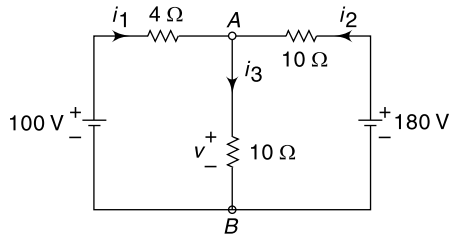

Fig. 4.36 Circuit of Ex. 4.22
4.22 Find the voltage v in the circuit shown in Fig. 4.36.